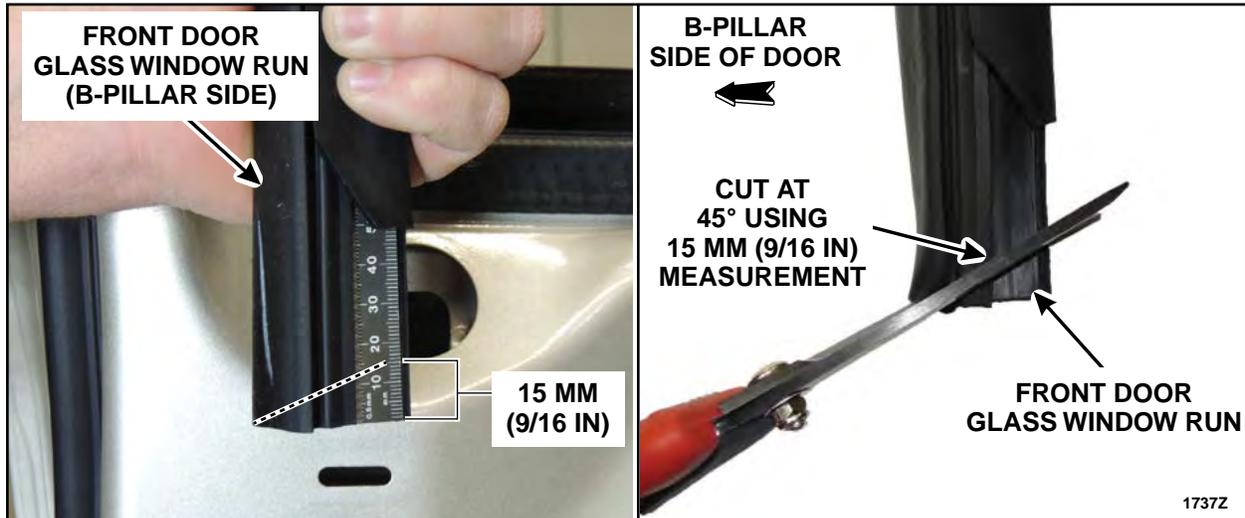

FIGURE 23
12. Modify the front door glass top run. See Figure 23.